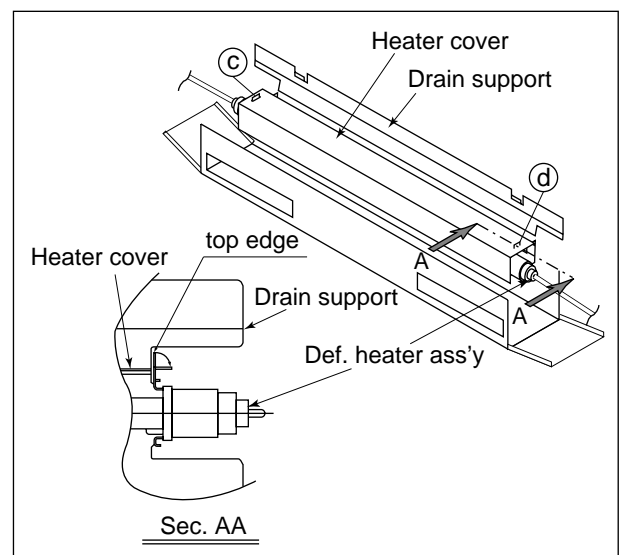

Fig. A-32
8. Set Heater cover on Drain support, and bend top edge (c) and (d) to outside as shown in Fig. A-32.